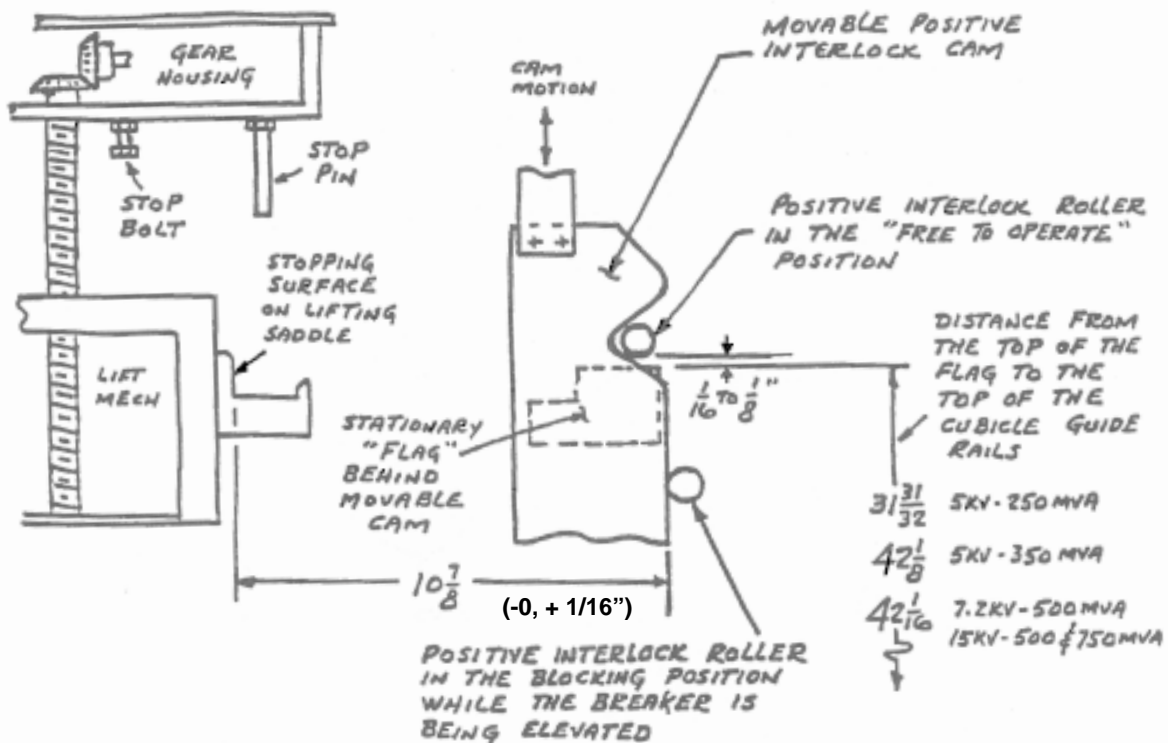

Figure 6. Positive Interlock system
While in the test position, the breaker interlock is not activated. The interlock roller will not rest in the lower "Vee" notch in the equipment interlock cam plate allowing the operator to close and open the breaker electrically or manually (see Figure 6).
The following positive interlock adjustments are made at the factory and verified for proper operation per Figure 6. The distance from the top of the stationary flag to the top of the switchgear guide rails is set. This maintains the surface upon which the breaker wheels rest when the breaker is lowered. The upper elevating motor limit switch is then adjusted to achieve a roller to flag clearance of 1/16" to 1/8" as shown in Figure 6. The limit switch de-energizes the elevating motor circuit and should be activated when the primary disconnects and secondary coupler reach their nominal contact penetration position. If the timing of this sequence is off, the cell must be adjusted back to factory specifications.
Typical instructions for making adjustments to the cell positive interlock cam as provided with the original equipment are outlined in Figure 6 and Figure 53.
2. Before inserting the New VL vacuum breaker into the cubicle, verify the cubicle interlock position by measuring the distance between (Figure 6) the movable positive interlock cam to the back of the lifting saddle of the racking mechanism. This distance should be $10\frac{7}{8}$ " minus 0, plus $1/16$ ".
NOTE: TABLE 3, FIGURES 6, 52, 53, AND 54 HAVE BEEN PROVIDED TO FAMILIARIZE THE OPERATOR WITH THE EQUIPMENT RACKING SYSTEM AND TROUBLESHOOTING.
3. Should the inspection of the contacts show that the breaker is not being raised to the proper position, readjust the upper stop bolts and limit switches to raise or lower the breaker to the proper location (See Figure 6 and 53). Lock the stop bolts in the new position.
The stop pins and stop bolts on the elevating mechanism are emergency mechanical stops which would come into use only if the upper elevating motor switch is completely out of adjustment or has failed. Elevating against these stops may be quite audible and the operator should release the clutch handle immediately, de-energizing the elevating motor circuit or the elevating motor circuit protective fuse will open to protect the motor. The stop bolts should be set to 3/32" to 1/8" clearance and only changed or reset after all other elevating adjustments are made and verified. Figure 6 and 53.